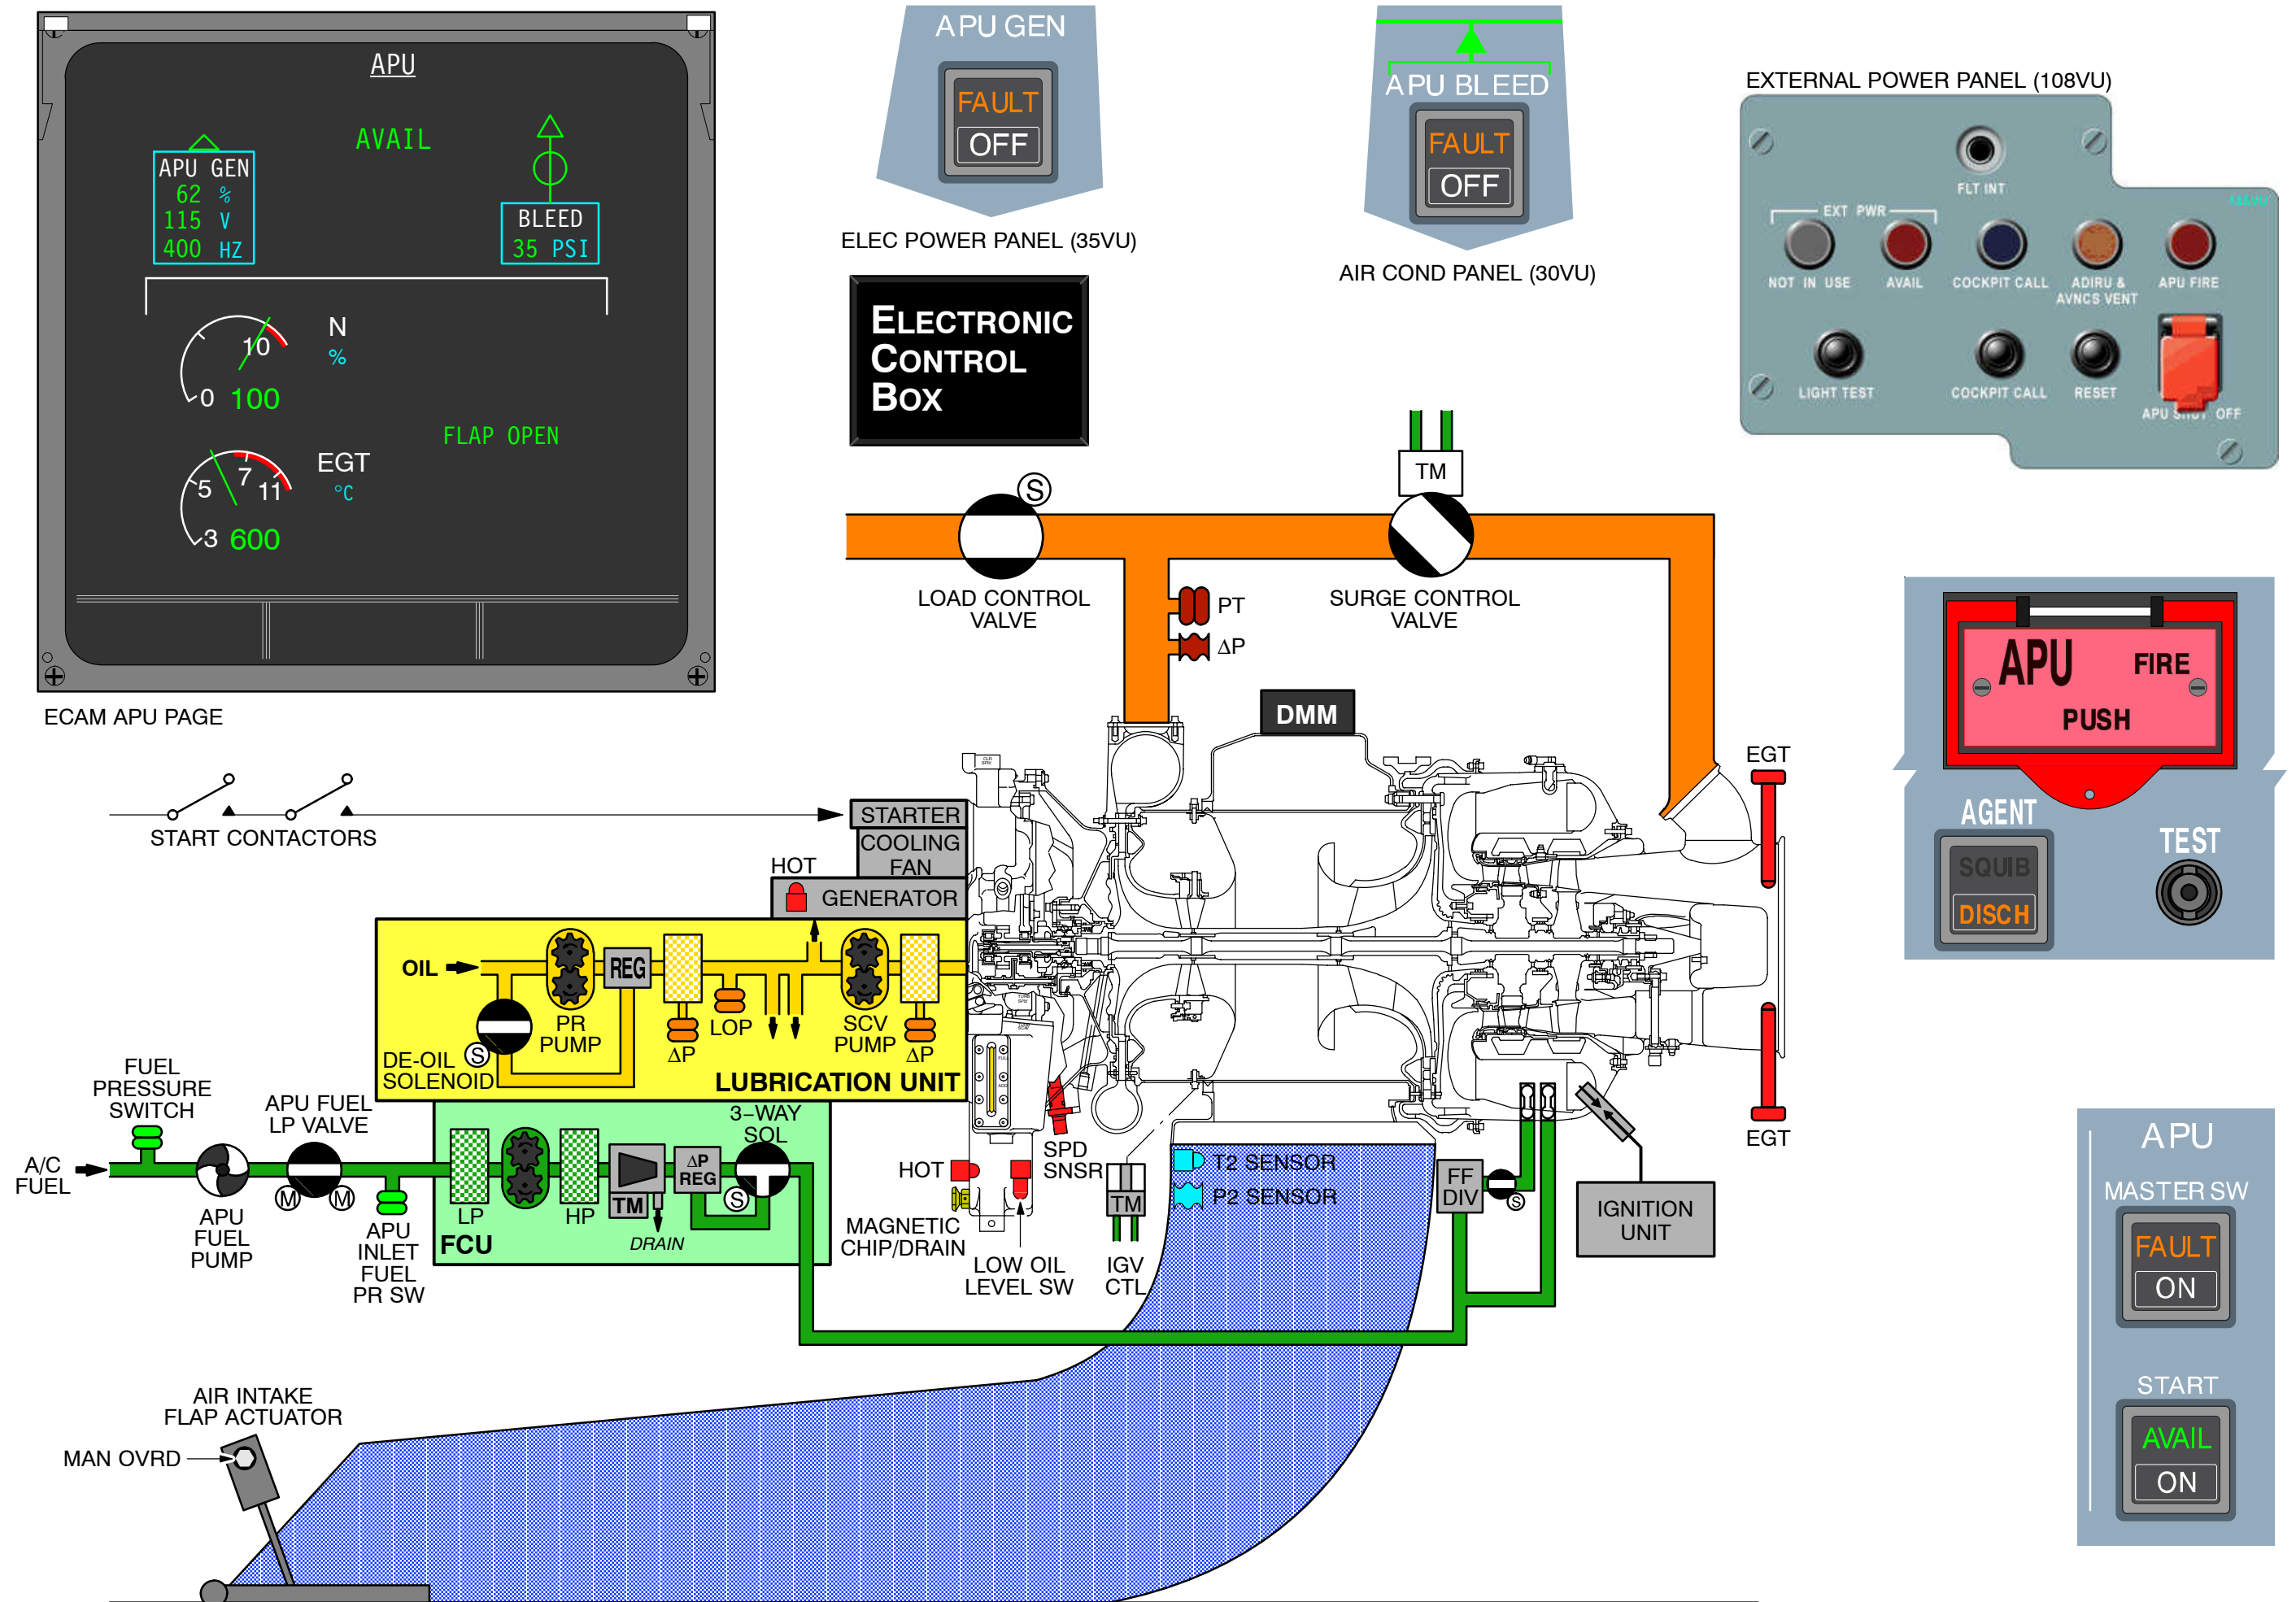

Figure 86 Honeywell 131-9(A) Basic Schematic Page 172
Reference to Figure 86 Honeywell 131-9(A) Basic Schematic